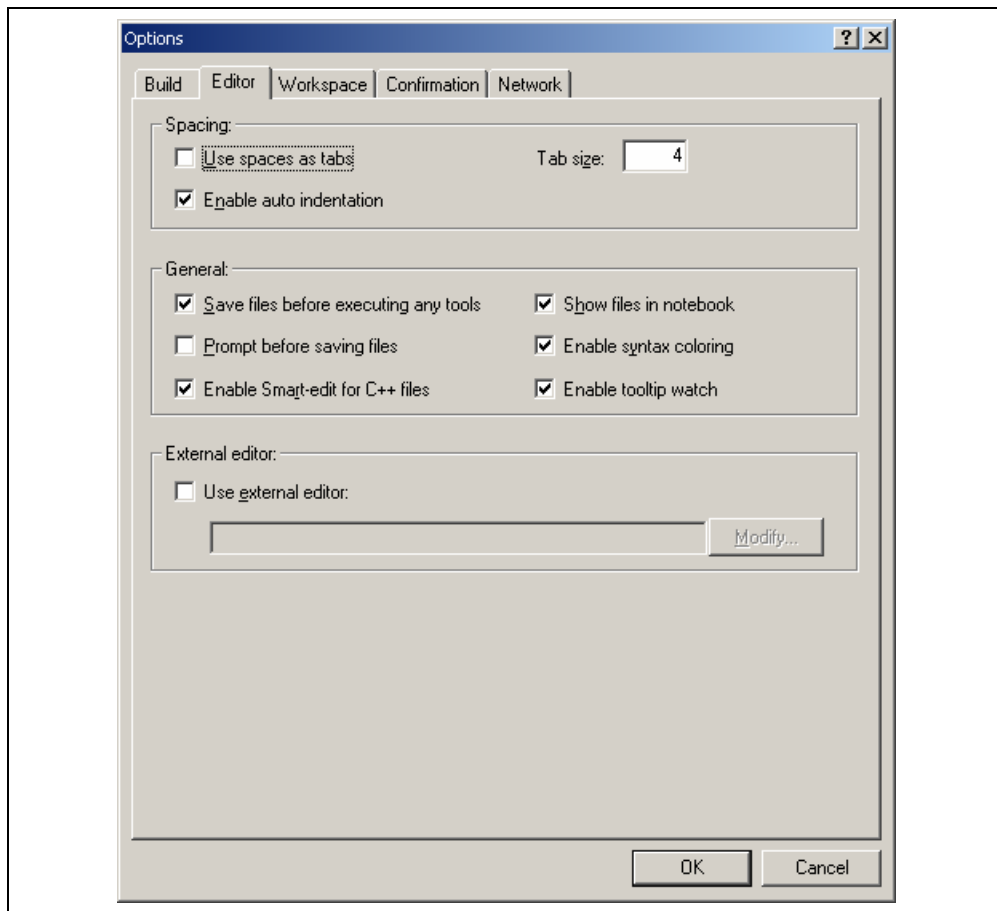

Figure 6.12: Options Dialog Editor Tab
1. Select **[Tools->Options...]**. The “Options” dialog will be displayed. Select the “Editor” tab (figure 6.12).
The High-performance Embedded Workshop allows you to customize file save on the “Editor” tab of the “Options” dialog (figure 6.12). To open the tab, select **[Tools->Options...]** and click the “Editor” tab.